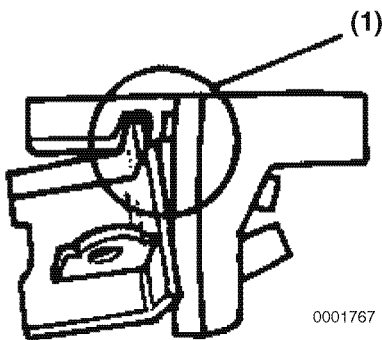

Figure 11-21
Note: **Figure 11-21** shows a brush holder installed incorrectly. The tab is detached from the groove (**Figure 11-21, (1)**).